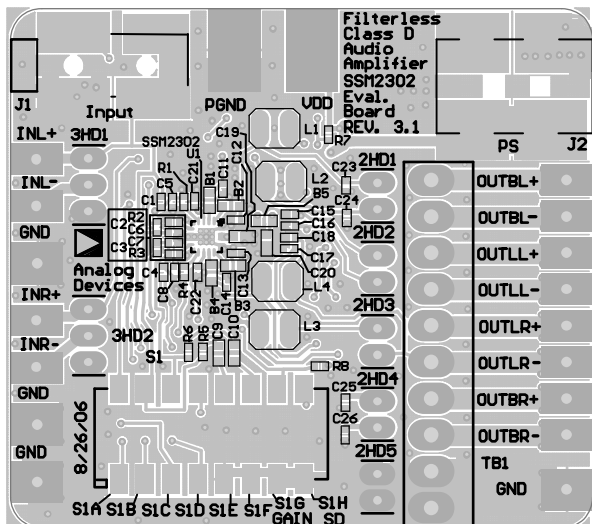
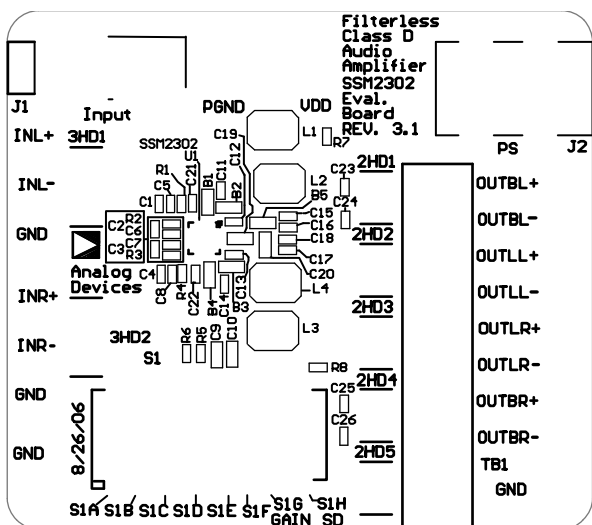
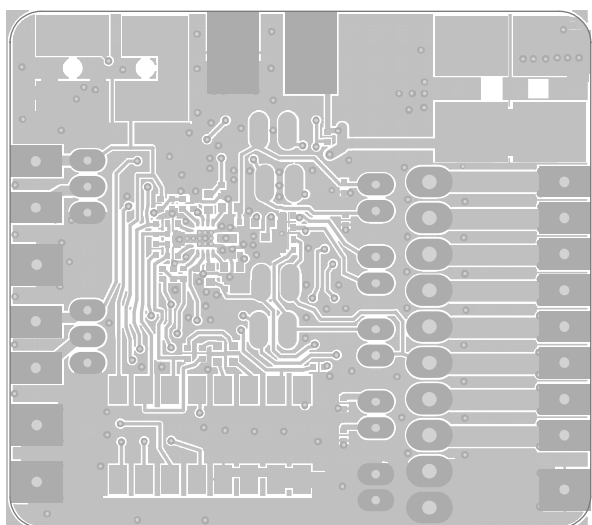

Figure 7. Top Silkscreen Layer with Other Top Layers
Figure 8. Top Silkscreen
Figure 9. Top Layers Without Top Silkscreen Layer
these capacitors should be connected to the chip ground as close as possible. See Figure 7, Figure 8, and Figure 9.
10. Connect the ground pins, Pin 6, Pin 7, Pin 13, and Pin 16, to the thermal pad and place grounding vias, as shown in Figure 7, Figure 8, and Figure 9.